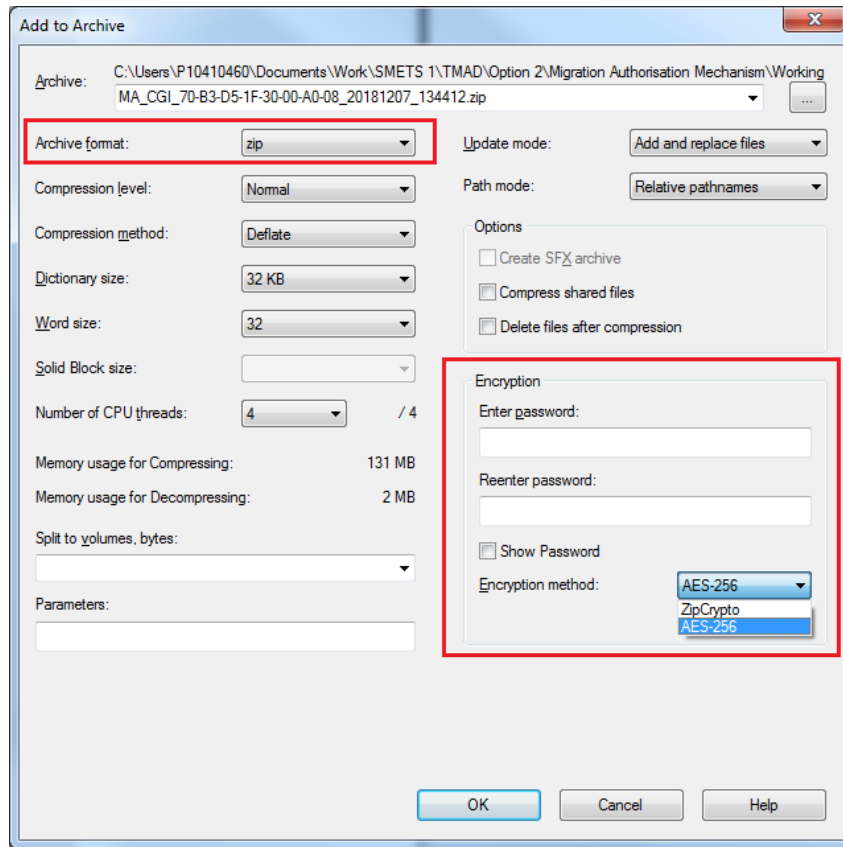

Figure 7.5.3: Select Archive format and Encryption method
- iii. Ensure Archive format is zip and Encryption method is AES-256 as shown in Figure 7.5.3.